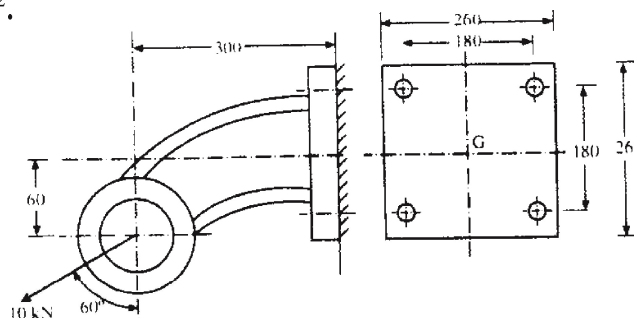

Fig.3
- Q6)** An offset column is fixed to steel column as shown in fig. 3 by means of four bolts. The bracket is subjected to an inclined pull of  $10 \text{ kN}$ . Determine the diameter of bolts by assuming allowable tensile stress in bolt to be  $150 \text{ N/mm}^2$ . [16]